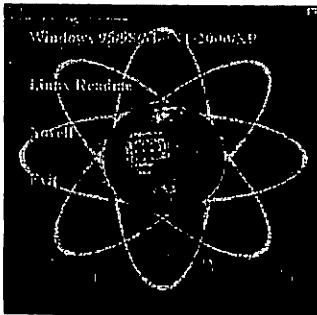

Fig 5.1
1. Insert the UPSMON CD into your CD-ROM drive. The installation program could start automatically and installation menu appear as shown in Fig 5.1. Please select the operating system applied for your computer and then click on it. (For example if your operating system is Windows 98, please click item Windows 98SE/ ME/ 2000/ XP/ 2003 Server.